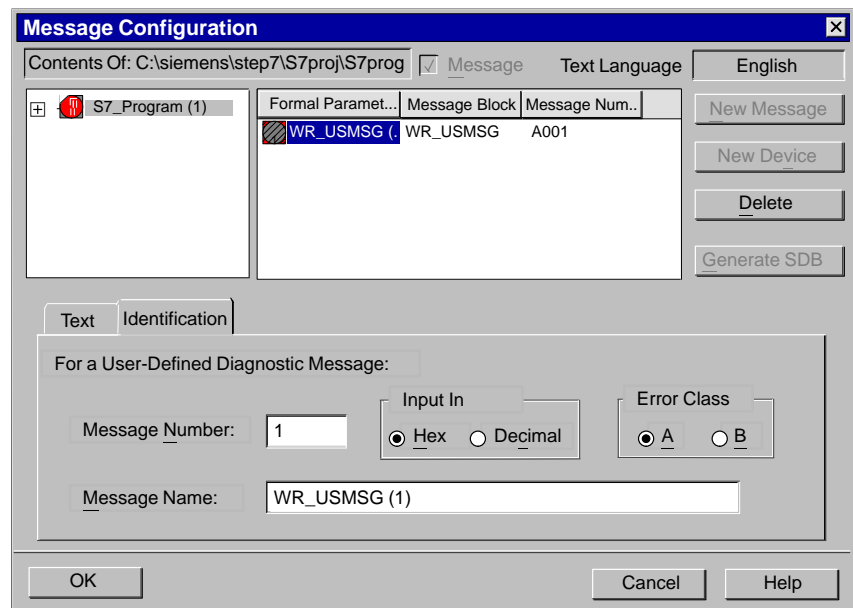

Figure 12-9 “Identification” Tab in Message Configuration
**Result:** A new user-defined diagnostic message with the designation “WR\_USMSG (<No.>)” is inserted and the “Identification” tab is displayed, as shown in Figure 12-9.